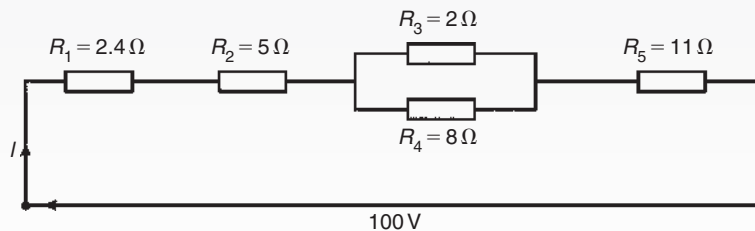

Figure RT2.1
- Resistances of $5\ \Omega$, $7\ \Omega$, and $8\ \Omega$ are connected in series. If a 10 V supply voltage is connected across the arrangement determine the current flowing through and the p.d. across the $7\ \Omega$ resistor. Calculate also the power dissipated in the $8\ \Omega$ resistor. (6)
- For the series-parallel network shown in Fig. RT2.1, find (a) the supply current, (b) the current flowing through each resistor, (c) the p.d. across each resistor, (d) the total power dissipated in the circuit, (e) the cost of energy if the circuit is connected for 80 hours. Assume electrical energy costs 14p per unit. (15)
- The charge on the plates of a capacitor is 8 mC when the potential between them is 4 kV . Determine the capacitance of the capacitor. (2)
- Two parallel rectangular plates measuring 80 mm by 120 mm are separated by 4 mm of mica and carry an electric charge of $0.48\ \mu\text{C}$. The voltage between the plates is 500 V . Calculate (a) the electric flux density (b) the electric field strength, and (c) the capacitance of the capacitor, in picofarads, if the relative permittivity of mica is 5. (7)
- A $4\ \mu\text{F}$ capacitor is connected in parallel with a $6\ \mu\text{F}$ capacitor. This arrangement is then connected in series with a $10\ \mu\text{F}$ capacitor. A supply p.d. of 250 V is connected across the circuit. Find (a) the equivalent capacitance of the circuit, (b) the voltage across the $10\ \mu\text{F}$ capacitor, and (c) the charge on each capacitor. (7)
- A coil of 600 turns is wound uniformly on a ring of non-magnetic material. The ring has a uniform cross-sectional area of 200 mm^2 and a mean circumference of 500 mm . If the current in the coil is 4 A , determine (a) the magnetic field strength, (b) the flux density, and (c) the total magnetic flux in the ring. (5)
- A mild steel ring of cross-sectional area 4 cm^2 has a radial air gap of 3 mm cut into it. If the mean length of the mild steel path is 300 mm , calculate the magnetomotive force to produce a flux of 0.48 mWb . (Use the B–H curve on page 80) (8)